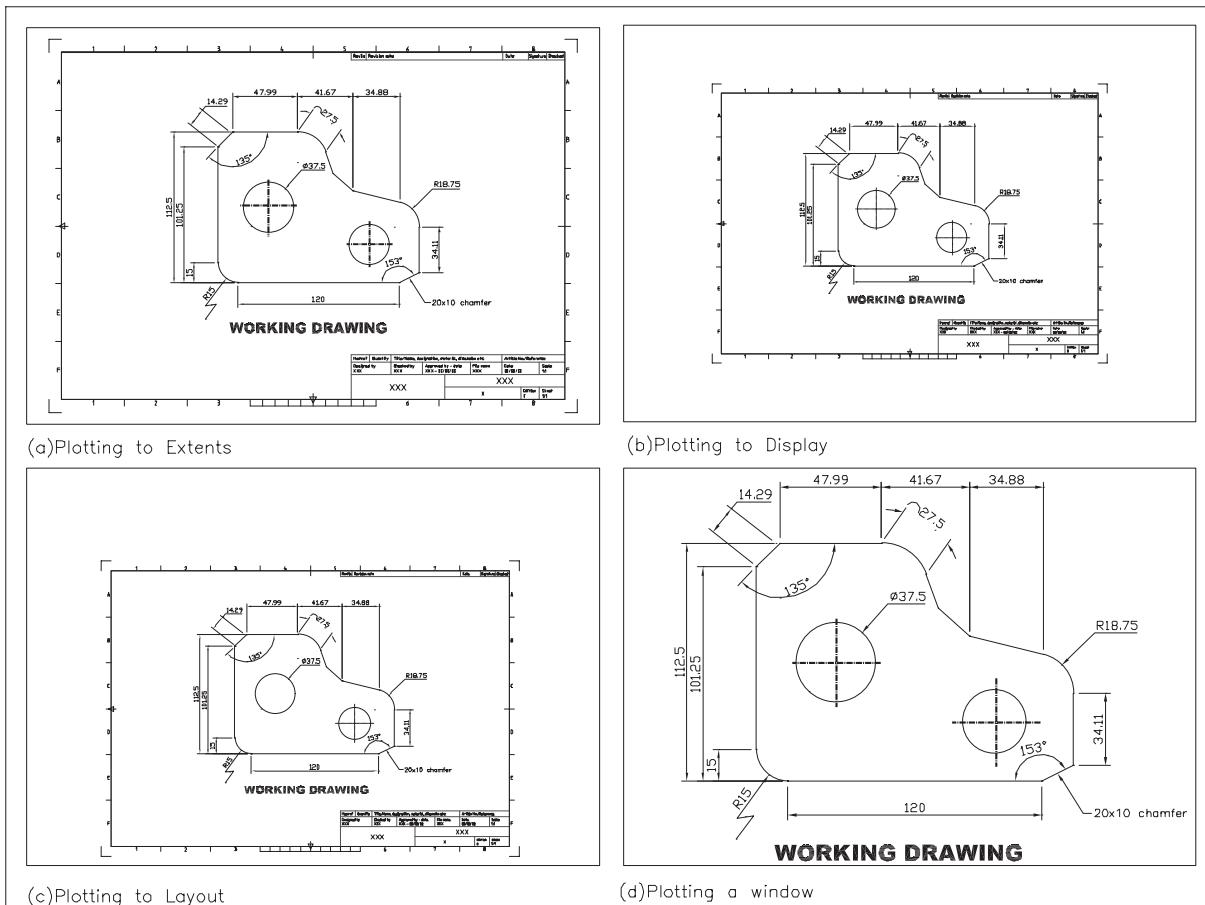

Figure 36.3 Using WORKDRG to demonstrate some plot options.
- 6 With the user having several options, e.g. plotter, paper size, fit to paper, etc., it is very difficult to demonstrate plotting. Figure 36.3 demonstrates four plots for the opened WORKDRG, all using landscape A4 paper: